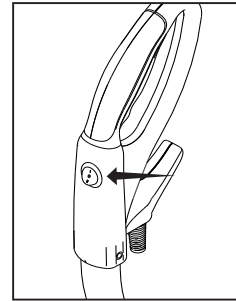

Fig. 2
- The power switch located on the vacuum handle, is a three-way switch (Fig. 2). The middle position is the “Off” setting, the rear position is the “On” setting and the forward position is for “Maximum Power” (Fig. 3).